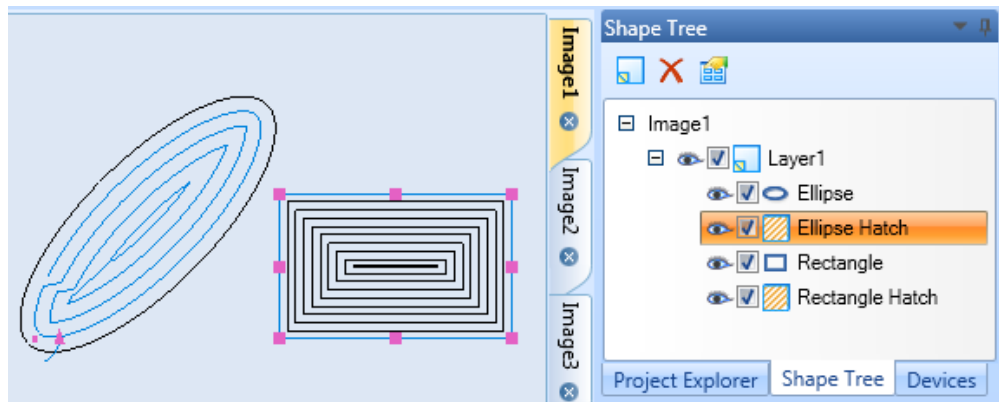

FIGURE 433: SELECTING SHAPE HATCHING
- **On the Shape Tree:** Left-click the hatching item, which will become blue-highlighted on the Drawing Canvas as shown in Figure 433 (below).
- You must be careful to left-click only the hatching, not the Shape itself. If you left-click the Shape itself, it will be selected and display hotspots—as shown on the rectangle in Figure 433 (below)—but the Shape hatching will not be selected. To ensure that you select the Shape's hatching, left-click as near the Shape's center as possible; avoid clicking on the outline of the Shape.